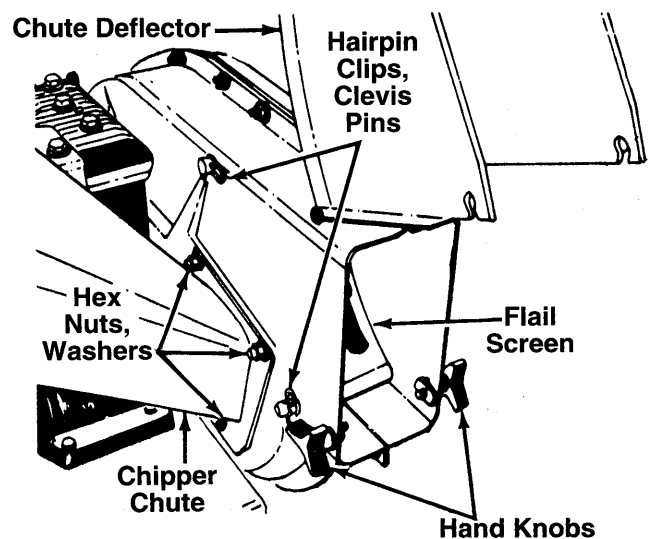

FIGURE 9.
3. Remove two hairpin clips from the clevis pins which extend through the housing. Remove the clevis pins. Lift the flail screen from inside the housing. See figure 9.
NOTE: Be certain to reassemble the flail screen with the curved side down as shown in figure 9.
3. Remove the chipper chute by removing three hex nuts and washers. A 1/2" wrench is required. See figure 9.